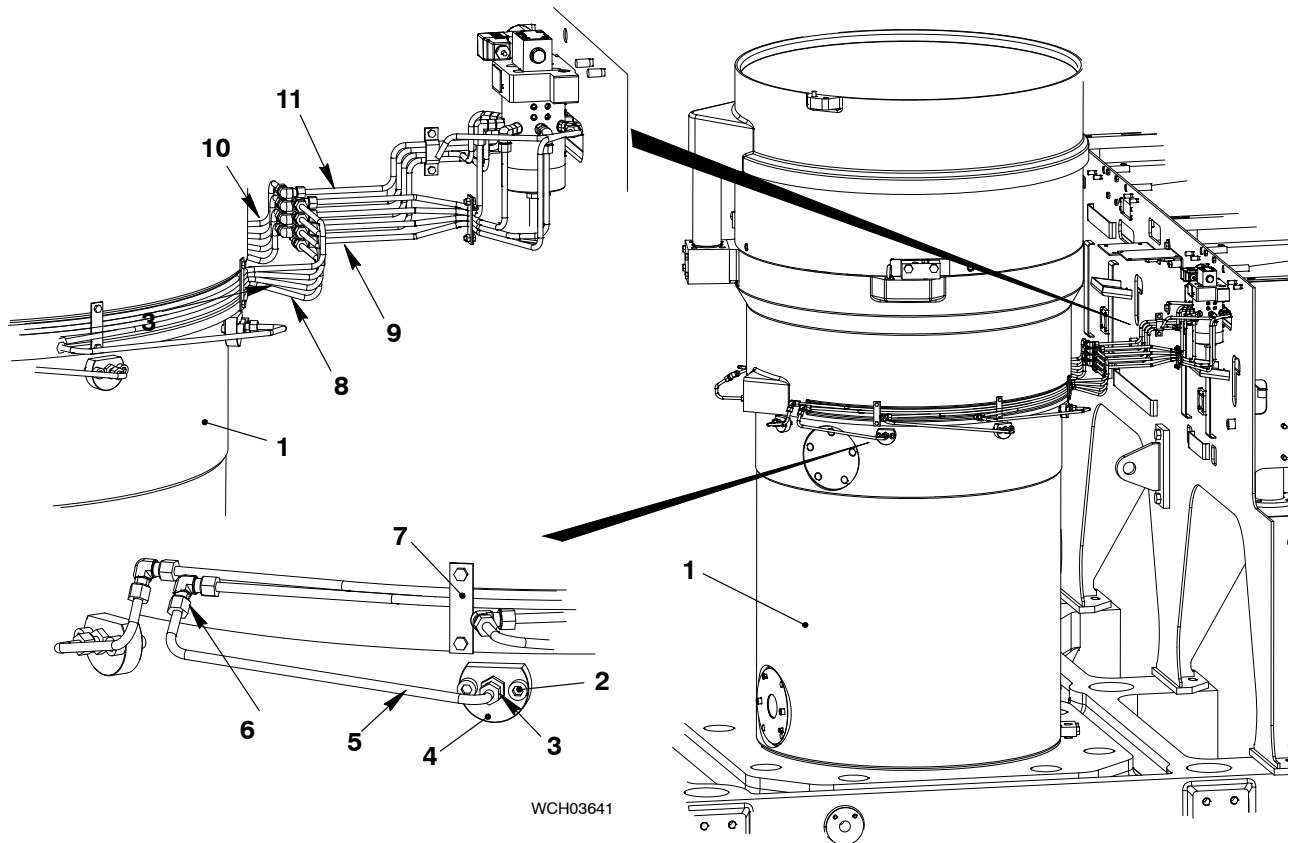

Fig. 1
**Note:** If it is not necessary to remove the cylinder liner (1, Fig. 1), do not drain the cylinder cooling water.
- 1) Loosen the nuts of the lubrication quill unions (3).
**Note:** Make sure that you do not cause damage to the oil pipe (5).
- 2) Remove the oil pipe (5) from the lubricating quill (4) and the pipe union (6).
- 3) Seal the oil pipe (5) with an applicable plug to prevent contamination.
- 4) Remove the two bolts (2).
- 5) Remove the lubricating quill (4).
**Note:** Steps 7) to 10) are only necessary if the cylinder liner (2) must be removed.
- 7) Remove all holders (7) on the cylinder liner (1).